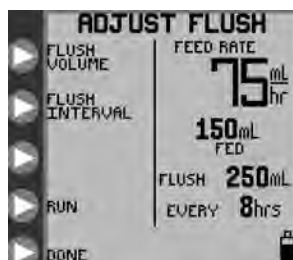
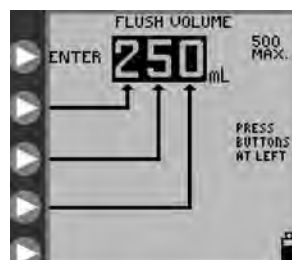
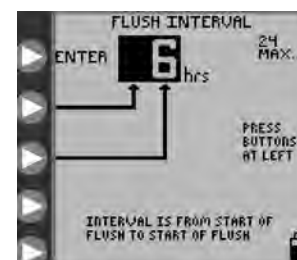

Figure 12A. ADJUST FLUSH menu, continuous mode.
Figure 12B. Setting the Flush Volume.
Figure 12C. Setting the Flush Time Interval.
For **CONTINUOUS** feeding mode with a Feed & Flush Set loaded, the opening menu will appear as shown in Figure 7B. Press ► **ADJUST FLUSH** in Figure 7B to program the flushing parameters from the **ADJUST FLUSH** screen, shown in Figure 12A.
Press ► **FLUSH VOLUME** in Figure 12A to define the volume per flush occurrence. Press the ► buttons in Figure 12B to program the flush volume from 10 to 500 in increments of 1 mL. Press ► **ENTER** (top button) to exit the menu.
Press ► **FLUSH INTERVAL** in Figure 12A to define the time interval between starts of flushing. Press the ► buttons in Figure 12C to program the time interval from 1 to 24 hours in increments of 1 hour. Press ► **ENTER** (top button) to exit the menu.
- **ADJUST FLUSH** screens (Figure 12A, 14A)
During the **RUNNING** mode, the pump can be diverted to immediately perform a flush (flush on demand) when a feed/flush set is loaded by pressing ► **FLUSH NOW** in the **RUNNING** menu, input a desired flush volume, then press ► **ENTER**. See Figure 15A. When ► **FLUSH NOW** is pressed, the screen will prompt for the volume to be immediately flushed, and will show the previously programmed flush volume as default but may be adjusted to the users desired volume. The screen will appear as the standard Flush input screen as shown in Figure 12B (or 14B). Setting the **FLUSH NOW** flushing volume is temporary and will not change the main/periodic flushing volume previously programmed. If ► **FLUSH NOW** is pressed by accident; the user may either press the cancel button or allow the screen to return to the **RUNNING** screen after 10 seconds, if there is no input for the flush volume.